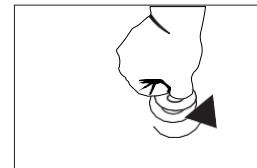

Figure 3
18. Place the container exactly under the drain plug as long as you empty after it is full each time. (Figure 3)
21. Plug your product into the wall-socket and ensure to operate it unloaded for at least three (3) hours on super cooling position.